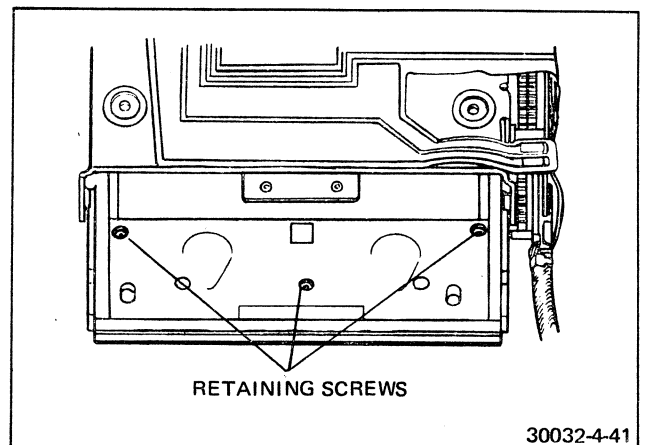

FIGURE 4-41 BOOT RETAINING SCREWS
8. Remove the inner-frame-to-boot-retainer screws. See Figure 4-41.